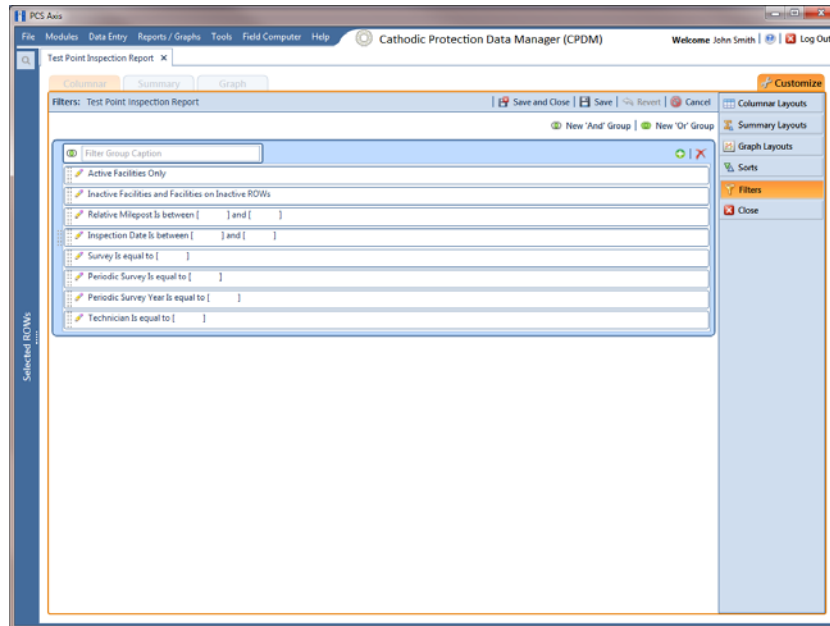

Figure 15-43. Filters
- Click the **Customize** tab  then the **Filters** button  to open the *Filters* page (Figure 15-43).